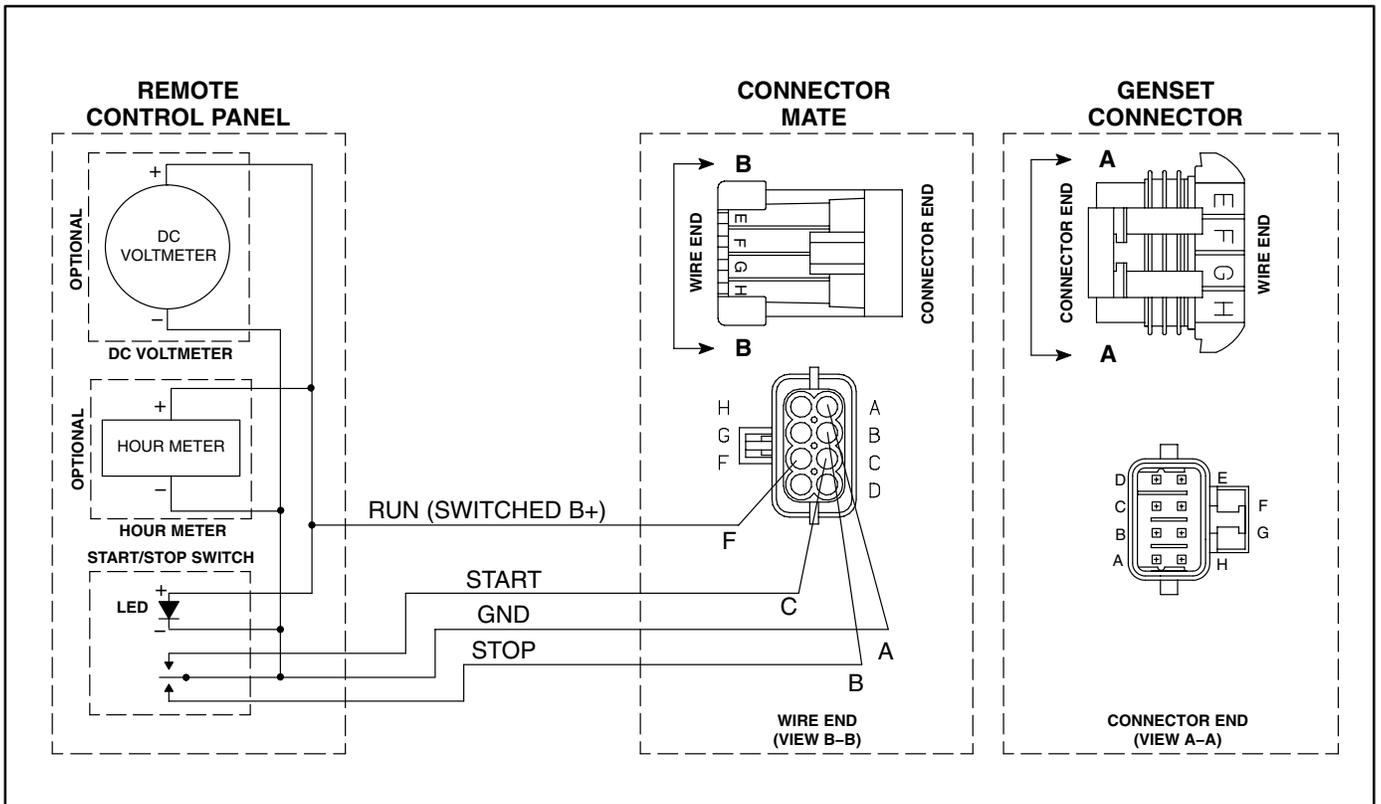

FIGURE 16. SCHEMATIC OF TYPICAL REMOTE CONTROL CONNECTIONS
1. Snap the connector together with its mate in the wiring harness from the remote panel. If the wiring harness is made up by others, insulated 18 AWG copper conductors should be used for distances up to 30 feet (9 meters) and heavier gauge conductors for distances that are greater. Use flexible sheathing to protect remote control wiring. Figure 16 is a schematic of typical remote control connections. It identifies the function of each connector pin number. The remote panel end of each lead should be marked to identify the connector pin number.